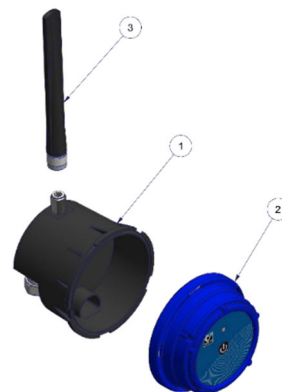

Figure 1 D35 parts
- (1) or (A): Circled numbers and letters in the text refer to the parts described in Figure 1 and 2 respectively (example: Figure 1 - page 5)